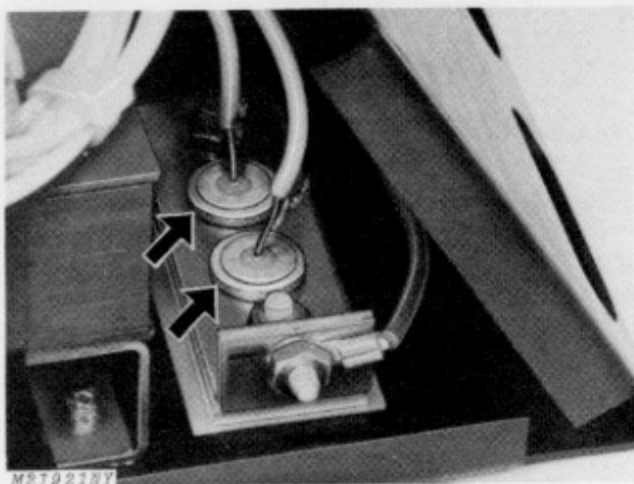

Fig. 11-Checking Diodes
2. Place ohmmeter probes across the diode, Fig. 11. Reverse probes.